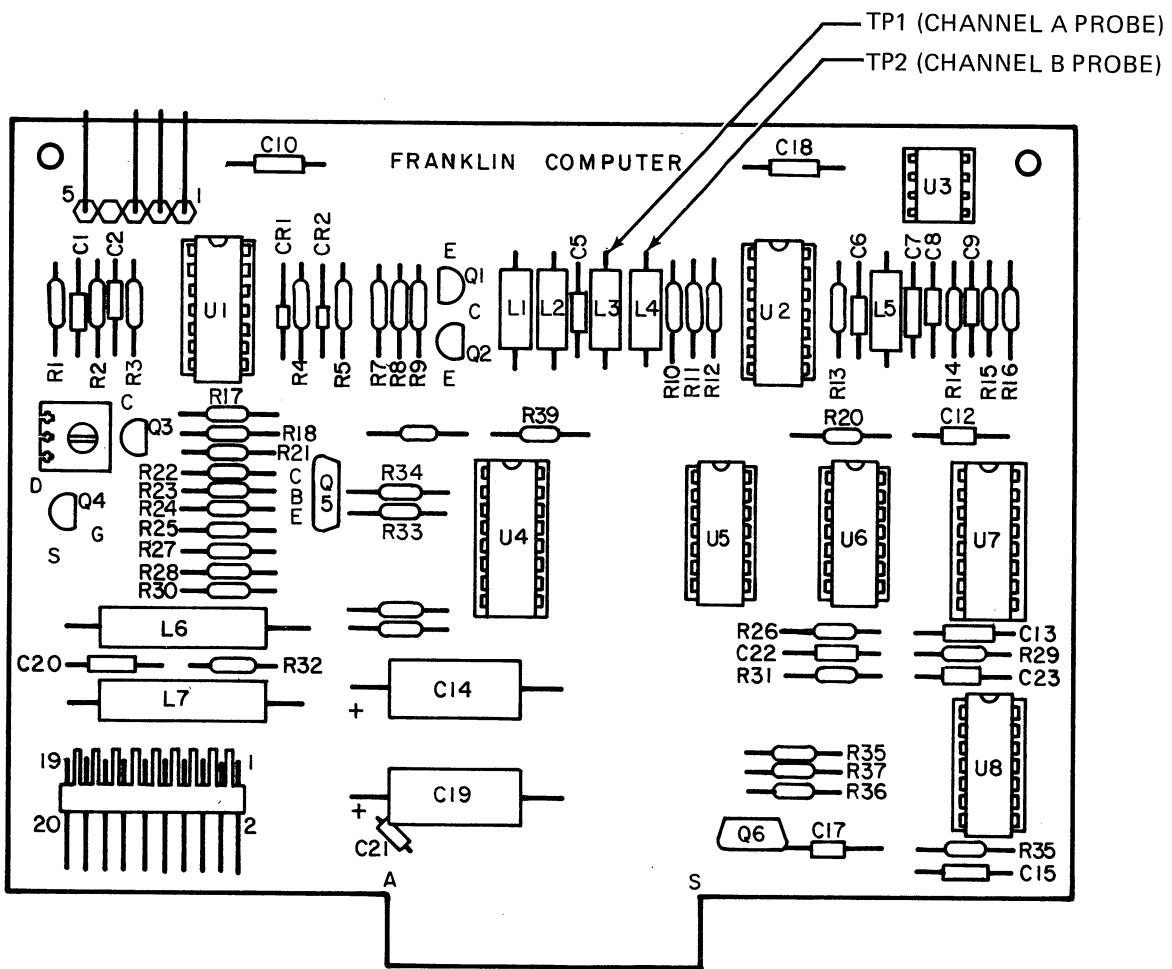

Figure 2. ACE 10 Disk Analog Board.
- A. Connect the oscilloscope probes to TP1 and TP2 as shown in figure 2. Connect a ground from the scope to the -(minus) side of C14. Set the scope controls to measure differential signals (A + B with the B channel inverted). Make certain that both A and B channels are set to the same volts per division.